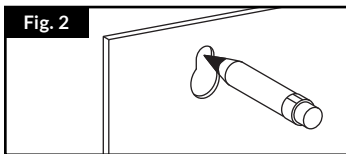

Fig. 2
- **Find Desired Location:** Hold the product against the wall where it will be mounted. Use the pre-drilled holes on the back of the dispenser to mark holes for installation (Fig. 2).